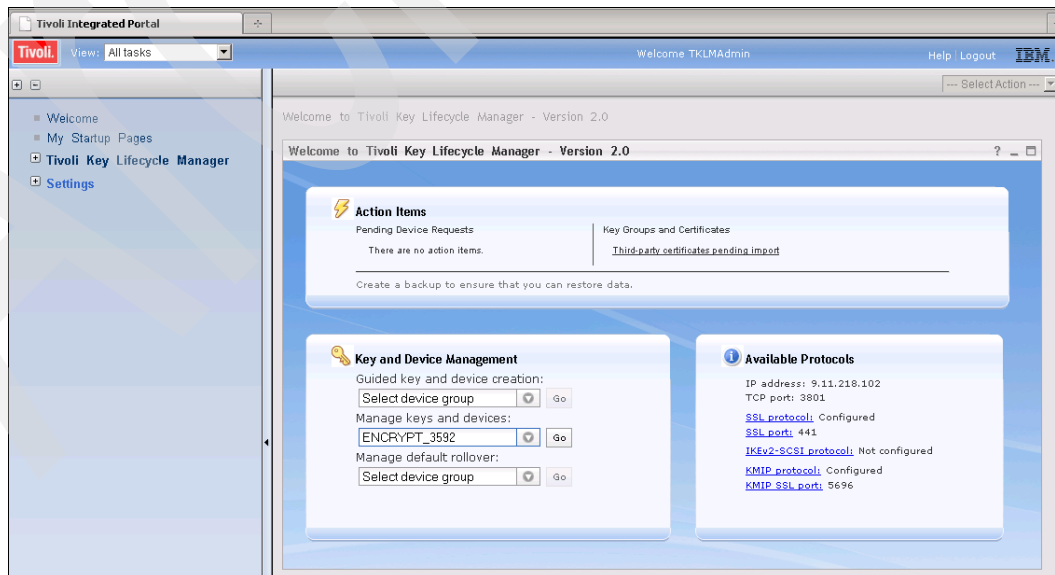

Figure 9-59 Welcome panel with manage keys and devices item selected
- On the Welcome panel, select the 3592 certificate from the **Manage keys and devices** drop-down list and click **Go** (Figure 9-59).